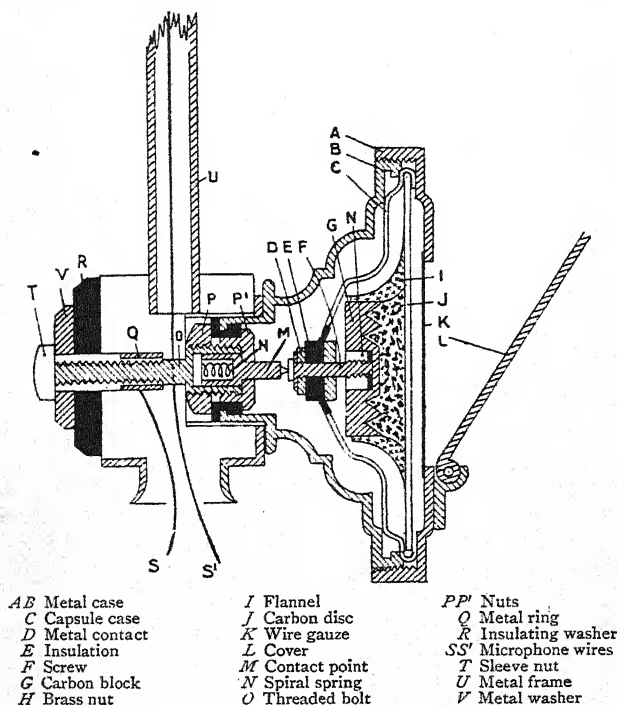

FIG. 43.
**Capsule Microphone.**—The latest microphone to be met with is the capsule type. It is shown in Fig. 43. The advantage of this type is, that if it becomes defective, it is only necessary to replace the inner portion G, or capsule, by another.